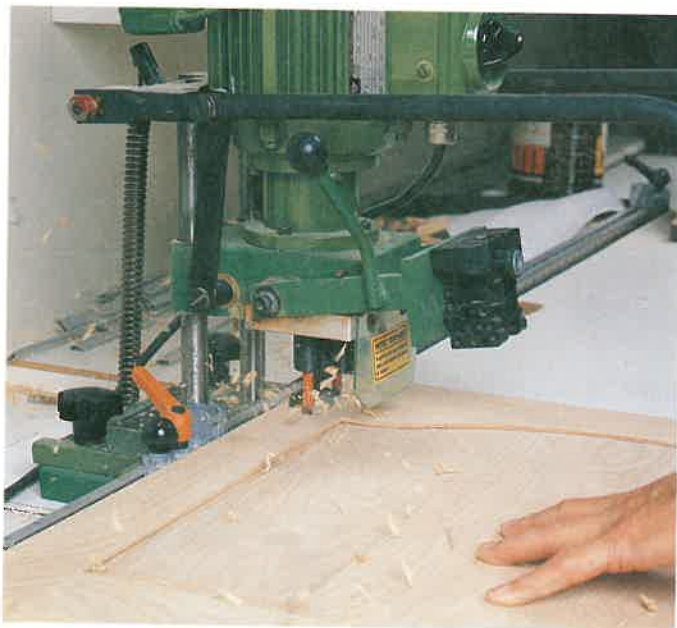

Figure 38-21. Boring holes for insertion of Euro-style concealed hinges. (Chuck Davis Cabinets)
- * Hinge-boring and setting machine. See **Figure 38-21**.